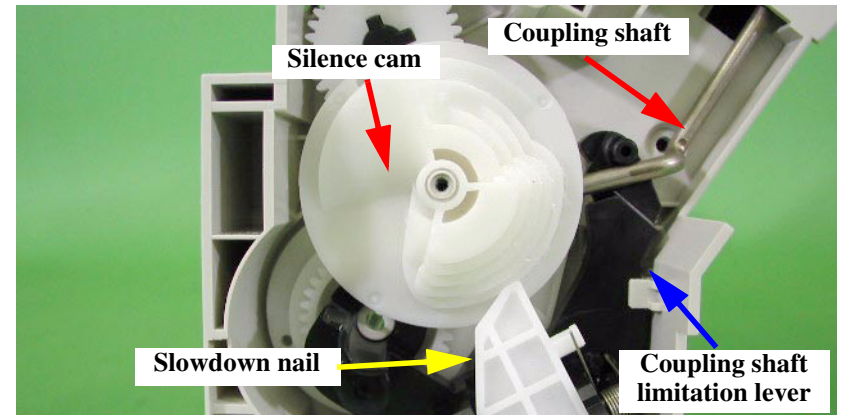
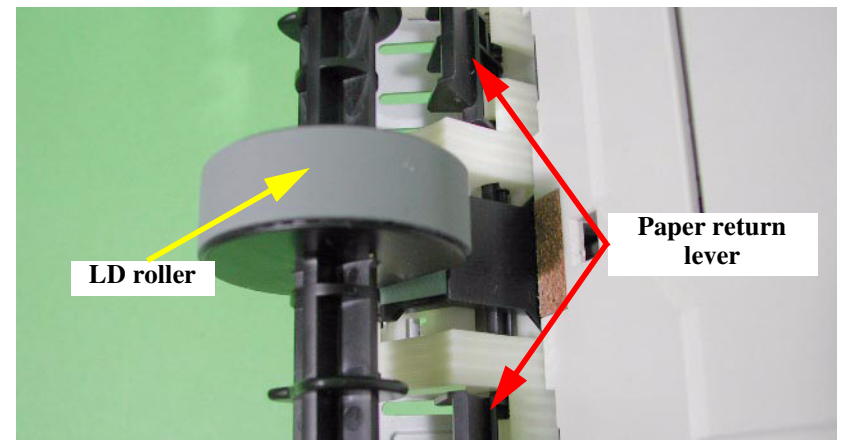

Figure 2-14. Silence Cam mechanism (1)
Figure 2-15. Silence Cam mechanism (2)
- 2. Figure 2-14 shows initial condition for silence cam, and Figure 2-15 shows initial condition for the hopper, LD roller, and paper return lever.